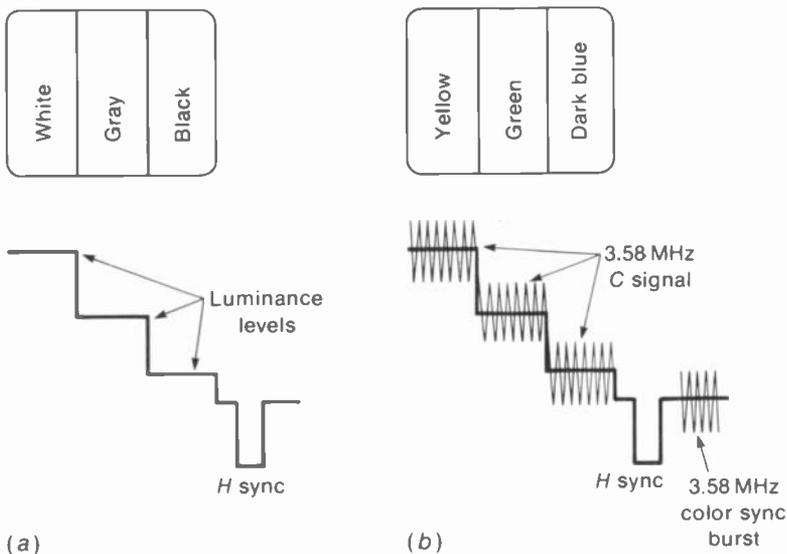

FIGURE 5-16 VIDEO SIGNAL WITH AND WITHOUT COLOR INFORMATION. (a) MONOCHROME SIGNAL ALONE. (b) COMBINED WITH 3.58-MHZ CHROMINANCE SIGNAL.
For color television, the composite video includes the 3.58-MHz chrominance signal. As a comparison, Fig. 5-16 shows video signal with and without color. The polarity is shown with
11. For color television, the composite video includes the 3.58-MHz chrominance signal, as shown in Fig. 5-16.